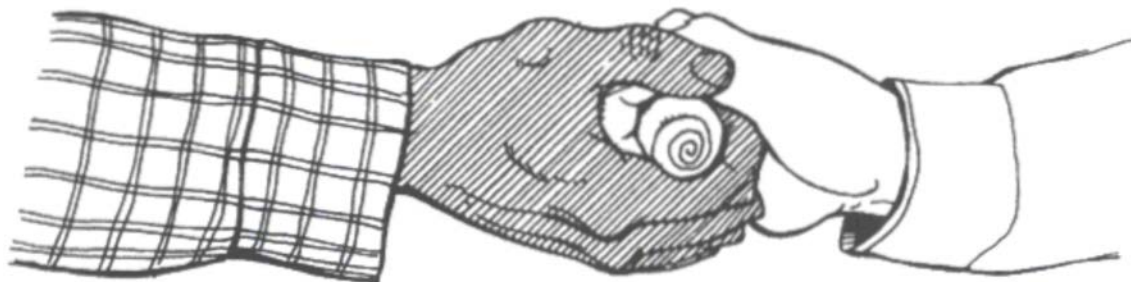

Figure 13 Hand Grip
2. Each rescuer will slide one hand under the casualty's thighs and lock fingers over a pad or while wearing mittens or gloves so that fingernails do not dig into each other (as illustrated in Figure 13).